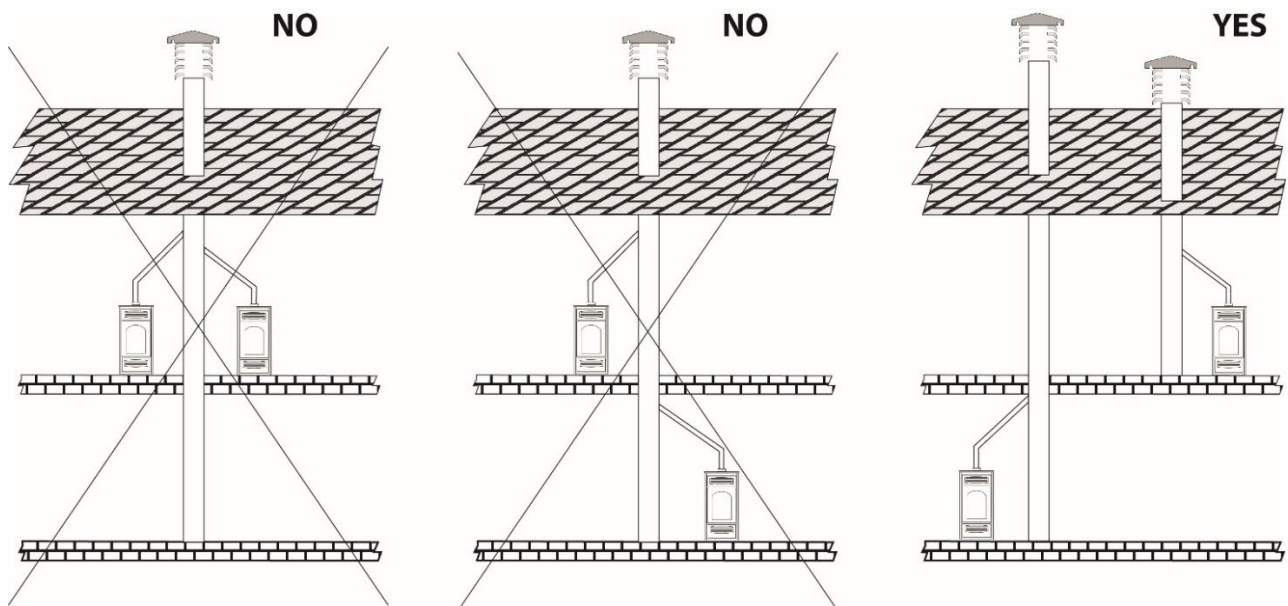

Fig.1
- It should not be connected to any other fireplace, stove, boiler, or hood of any kind (*Fig. 1*).